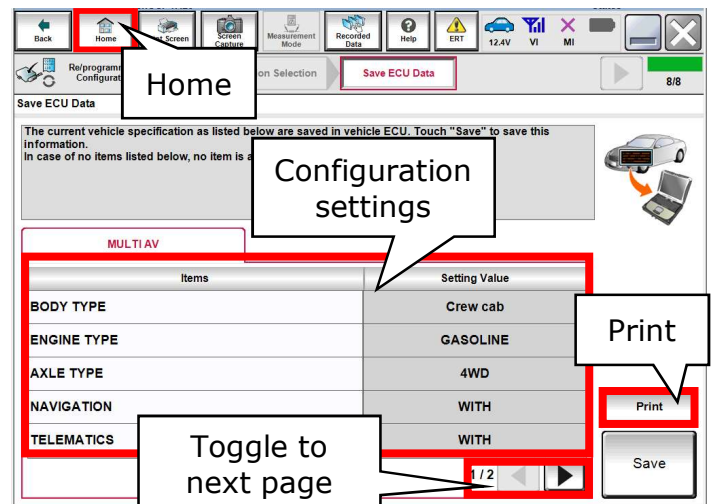

Figure 13
14. Write down **BOTH** pages of configuration settings on your repair order. (Figure 13)
Configuration information can be printed by selecting **Print** at the RH lower side of the screen. (Figure 13)